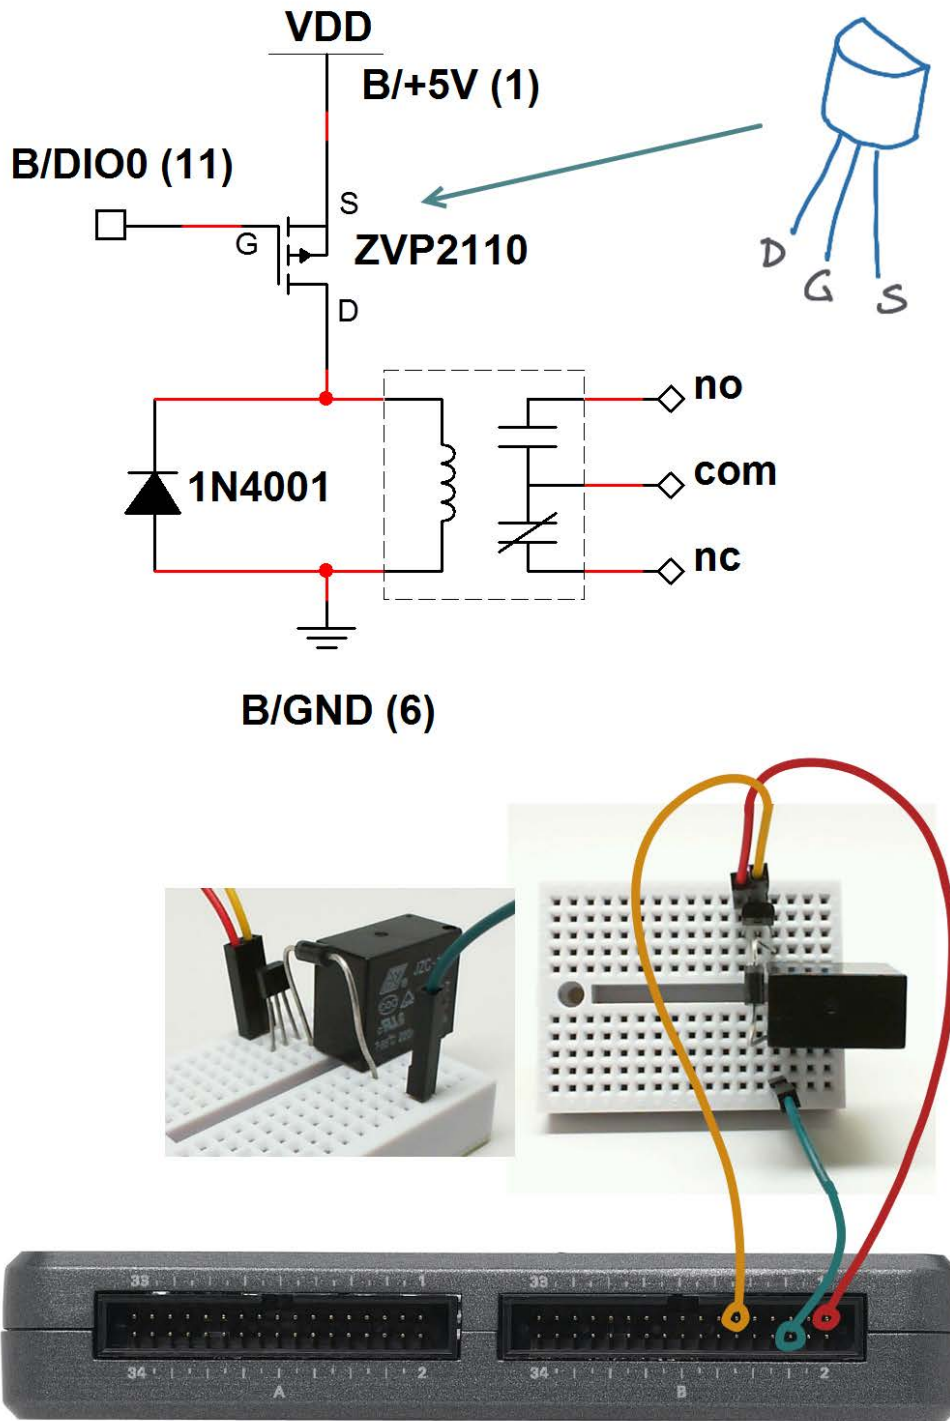

Figure 6.2: Demonstration circuit for relay: schematic diagram, recommended breadboard layout, and connection to NI myRIO MXP Connector B.
Build the interface circuit: Refer to the schematic diagram and recommended breadboard layout shown in Figure 6.2 on page 23. Note that the three relay switch contacts do not sit on tenth-inch centers,
2. Blink two LEDs to simulate a railroad crossing signal; use the three relay contacts “normally open” (NO), “normally closed” (NC), and “common” (COM) as shown in Figure 6.2 on the previous page.